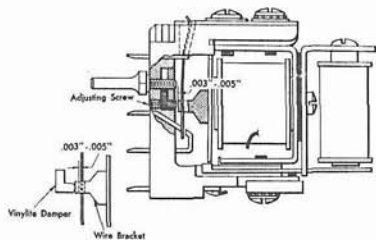

Figure 25. Adjustment 6
6. Figure 25. The damper screw should be adjusted to allow .003" to .005" movement between the vinylite damper and the wire bracket before the wire bracket can move any contact wire. If the screw is loosened, the vinylite damper must be pressed back into the moulding before checking the clearance between the damper and the wire bracket. Once adjusted at the factory, the damper screw is sealed with cement #198896.